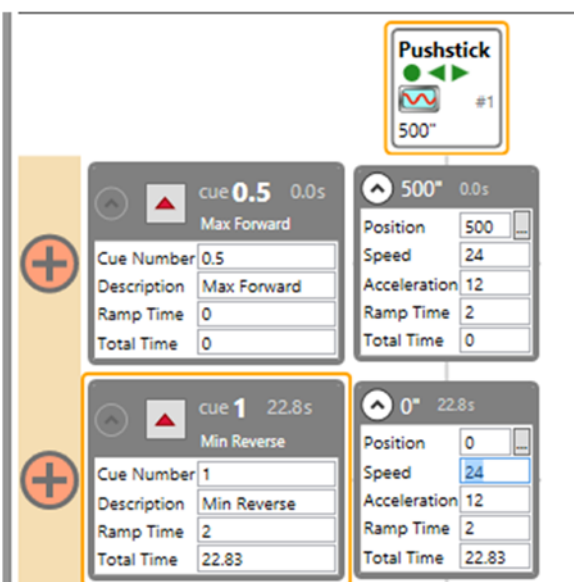

Figure 93
6. Now that we've added Cue .5, let's write another Cue. By default, **Cue 1** already exists. Enter its **Description** as "Min Reverse," then repeat steps 3 through 5 and enter a **Position** value of "0" (Figure 93).